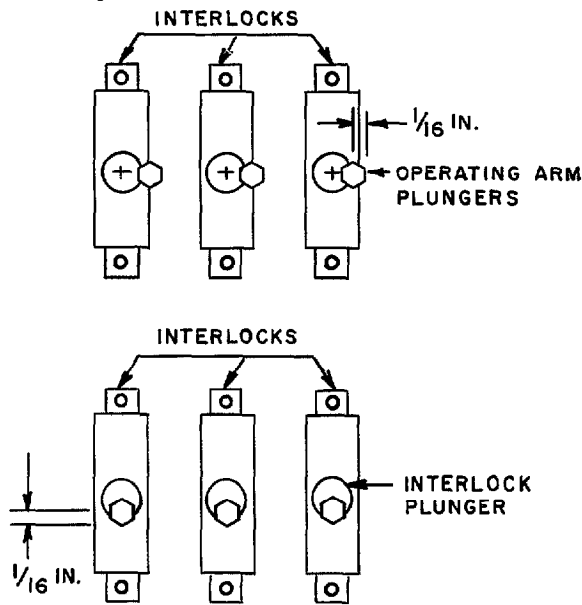

Figure 5. Alignment of interlock plungers and operating arm plungers.
1. The interlock plunger and operating arm plunger must line up horizontally and vertically within 1/16 inch. (See Figure 5). To correct the horizontal alignment, loosen the shaft bolts that mount the operating arm, and slide the arm in the direction desired. To adjust for